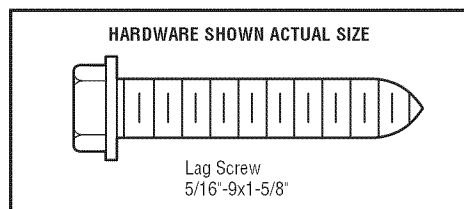

Figure 1
1. Center the bracket on the vertical centerline with the bottom edge of the bracket on the horizontal line as shown (with the arrow pointing toward the ceiling) (Figure 1).